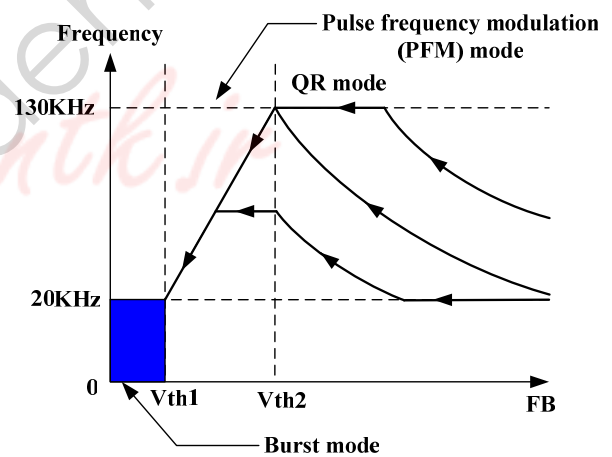

Figure 1
■ Under normal operating conditions ( $FB > V_{th2}$ , Figure 1), the system operates in QR mode. The frequency variation in QR mode is limited to the range of 20KHz ~ 130KHz due to the fact that frequency varies depending on the line voltage and the load conditions. System design should be optimized such that the operation frequency is within the range specified at full loading conditions and in universal AC line input range.
■ At light load condition ( $V_{th1} < V_{FB} < V_{th2}$ , Figure 1), the system operates in PFM (pulse frequency modulation) mode for high power conversion efficiency. In PFM mode, the “ON” time in a switching cycle is fixed and the system modulates the frequency according to the load conditions. Generally, in flyback converter, the decreasing of loading results in voltage level decreasing at FB pin. The controller monitors the voltage level at FB and control the switching frequency. However, the